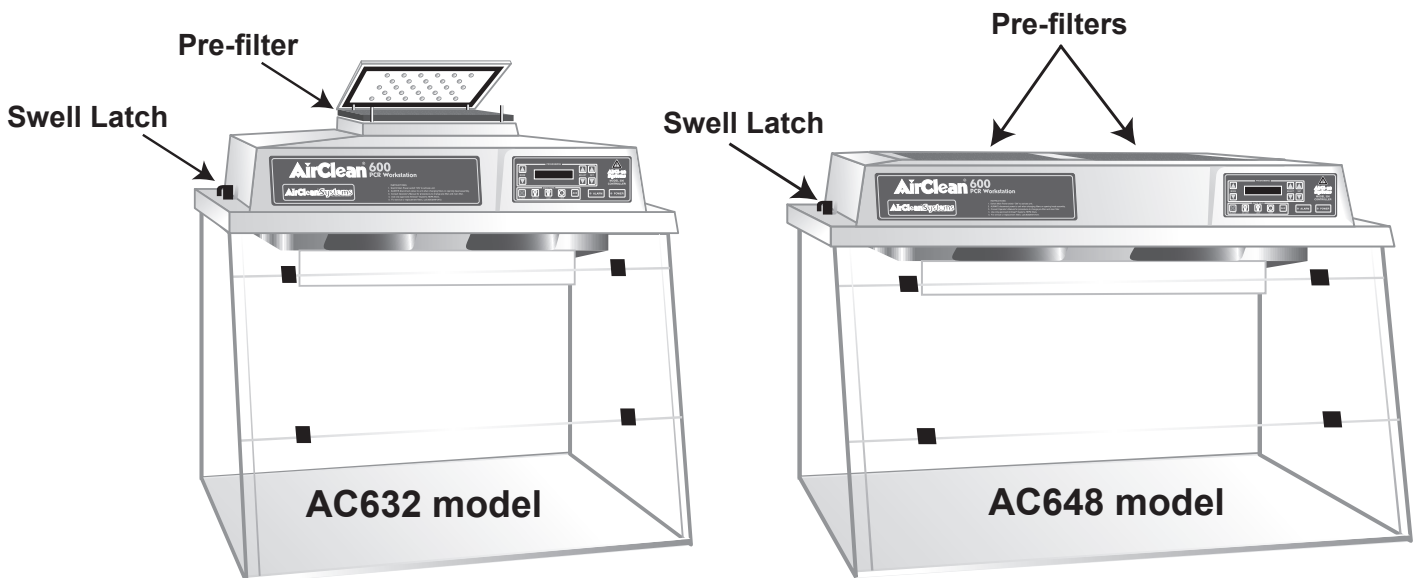

Figure 4, Pre-filter and swell latch locations.
- 11) Make sure that the swell latches, located on the side lip of the head assembly, are in the latched position and that the head assembly is secure and properly seated. See figure 4.